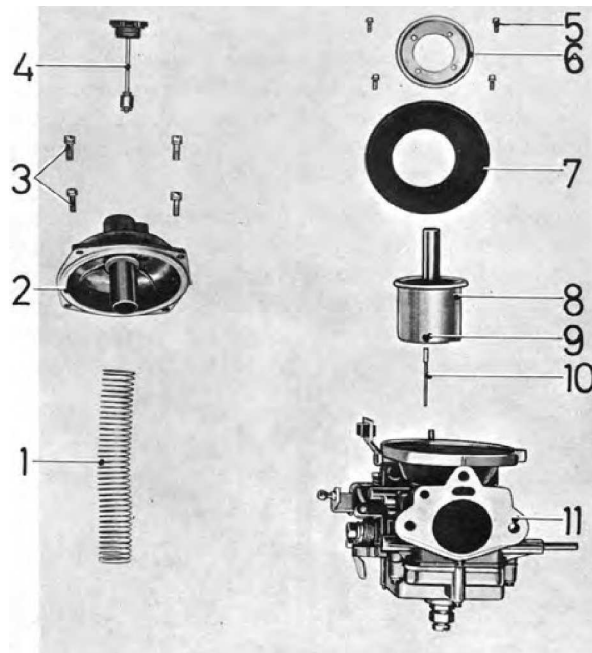

Fig. F6. Upper section dismantled
2. Lift out the air valve with metering needle and diaphragm. See Fig. F6.